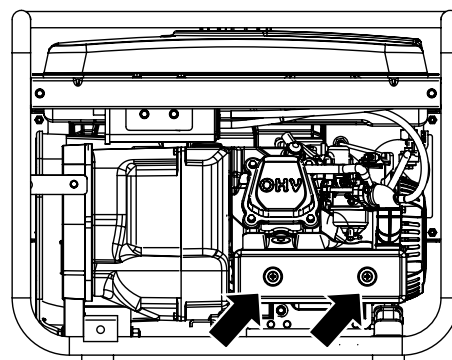

Figure 13: Oil drain plug
2. Unscrew the air cleaner cover and set aside (see Figure 13).